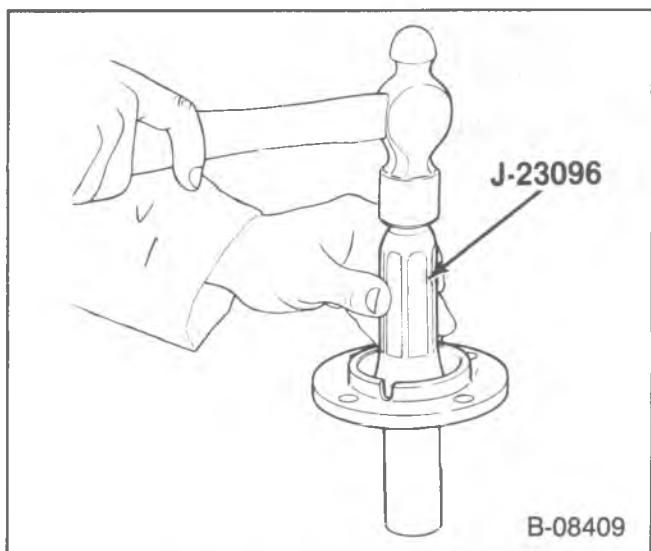

Figure 137—Installing the Bearing Retainer Oil Seal
- New seal (683) using J-23096. Coat the inside of the seal with transmission oil, (figure 137).